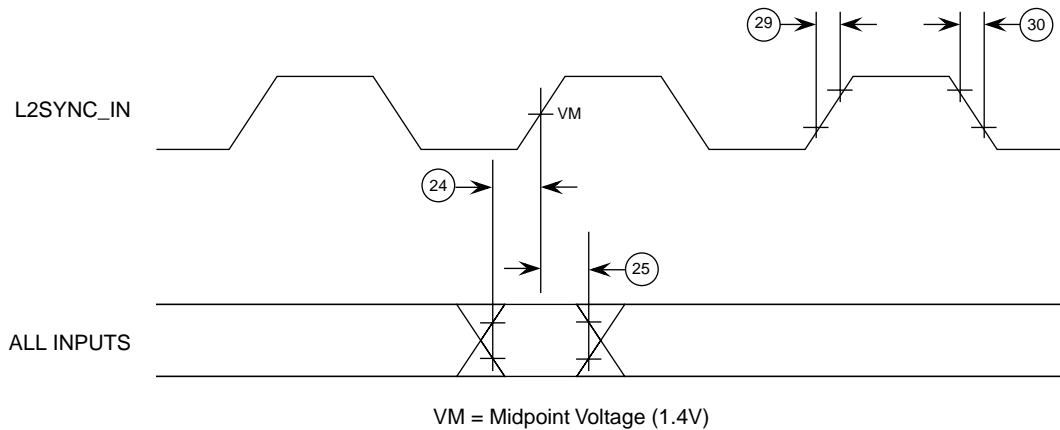

Figure 7. L2 Bus Input Timing Diagrams
1. All input specifications are measured from the TTL level (0.8V or 2.0V) of the signal in question to the midpoint voltage of the rising edge of the input L2SYNC_IN. Input timings are measured at the pins (See Figure 7).
Figure 7 shows the L2 bus input timing diagrams for the XPC750P.